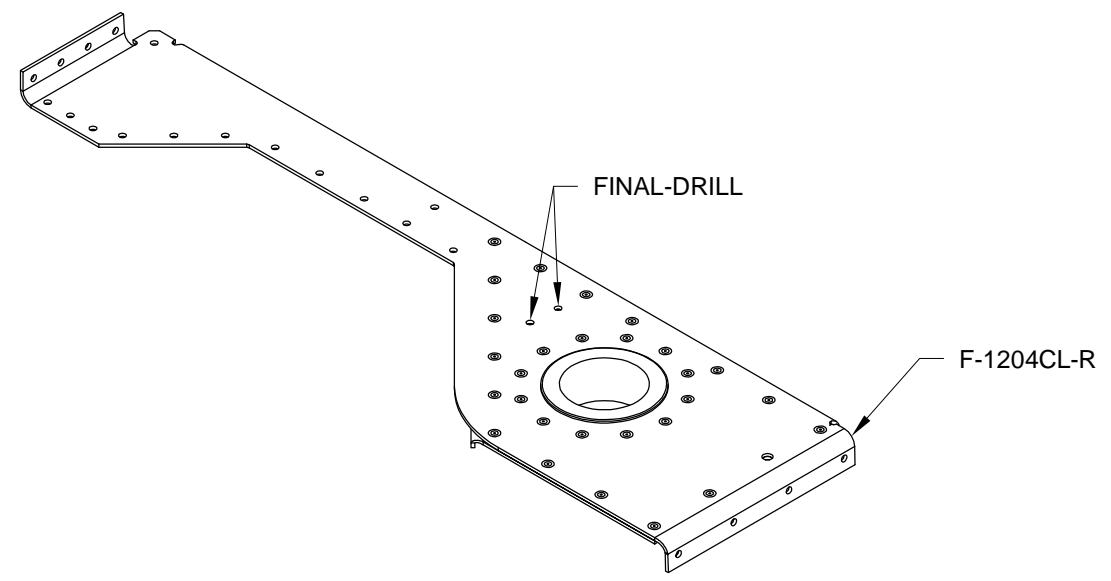

FIGURE 3: FINAL-DRILL F-1204CL-R
Step 5: Final-Drill #12 the two #30 holes in F-1204CL-R per the call-out in Figure 3.